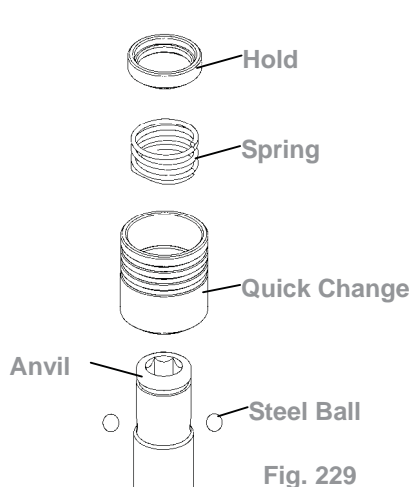

Fig. 229
8.1 Place the steel ball, the quick change holder, the spring, and the hold spacer orderly as Fig. 229 showed.